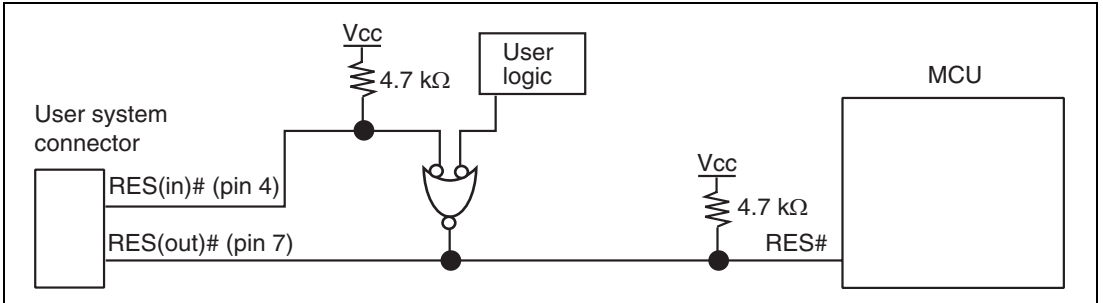

Figure 1.6 Connection of Pin RES#
- RES(in)# of pin 4 of the user system connector is a signal line in which the emulator outputs signals to the MCU. RES(in)# of pin 4 and the user logic reset circuit for the signal line must be connected to pin RES# of the MCU as shown in figure 1.6. RES(out)# of pin 7 of the user system connector is a signal line in which the emulator monitors pin RES# of the MCU. The RES# must be pulled up before it is connected to pin 7 of the user system connector.